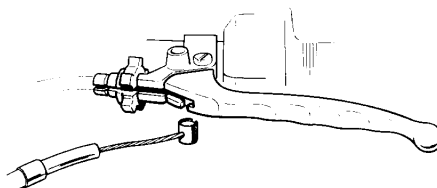

Fig. G3. Removal of the Clutch Cable at the Handlebar.
3. Slacken the clutch cable adjuster at the handlebar end and remove the cable from the lever assembly (Fig. G3).